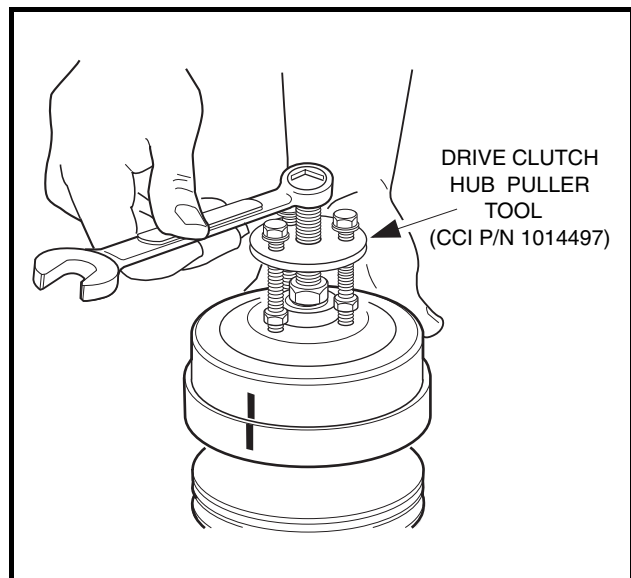

Figure 17-7 Remove Drive Clutch Hub
- 2.2. Thread the center bolt of the Drive Clutch Hub Puller (CCI P/N 1014497) into clutch until the stop nut touches the clutch, then back the bolt out one-half turn (Figure 17-7, Page 17-7).
- 2.3. Thread the three small bolts of the puller into corresponding holes in the clutch. Tighten bolts evenly, making sure the face of the puller plate is parallel to the face of the clutch (Figure 17-7, Page 17-7).